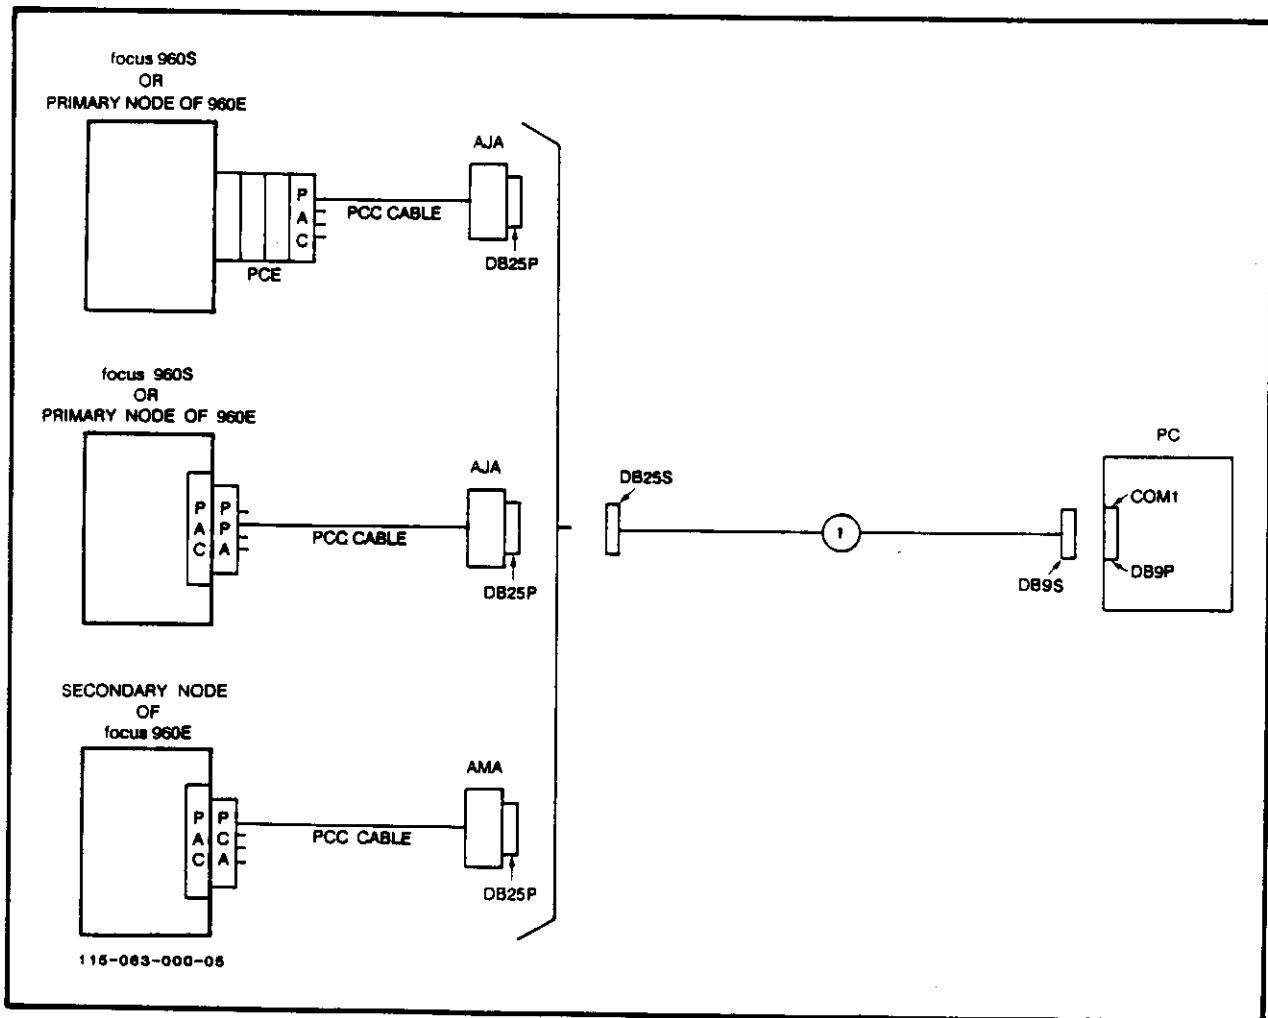

Figure 3-15. Local PBX to PC SMDR Link without Call Record Buffer
9.03 If you have a local cable kit and you do not have a call record buffer, refer to Figure 3-15 and follow these steps.
2. Plug the other end into either the AJA or AMA included with the cable kit. Refer to Figure 3-15 to determine the proper adapter to be used.